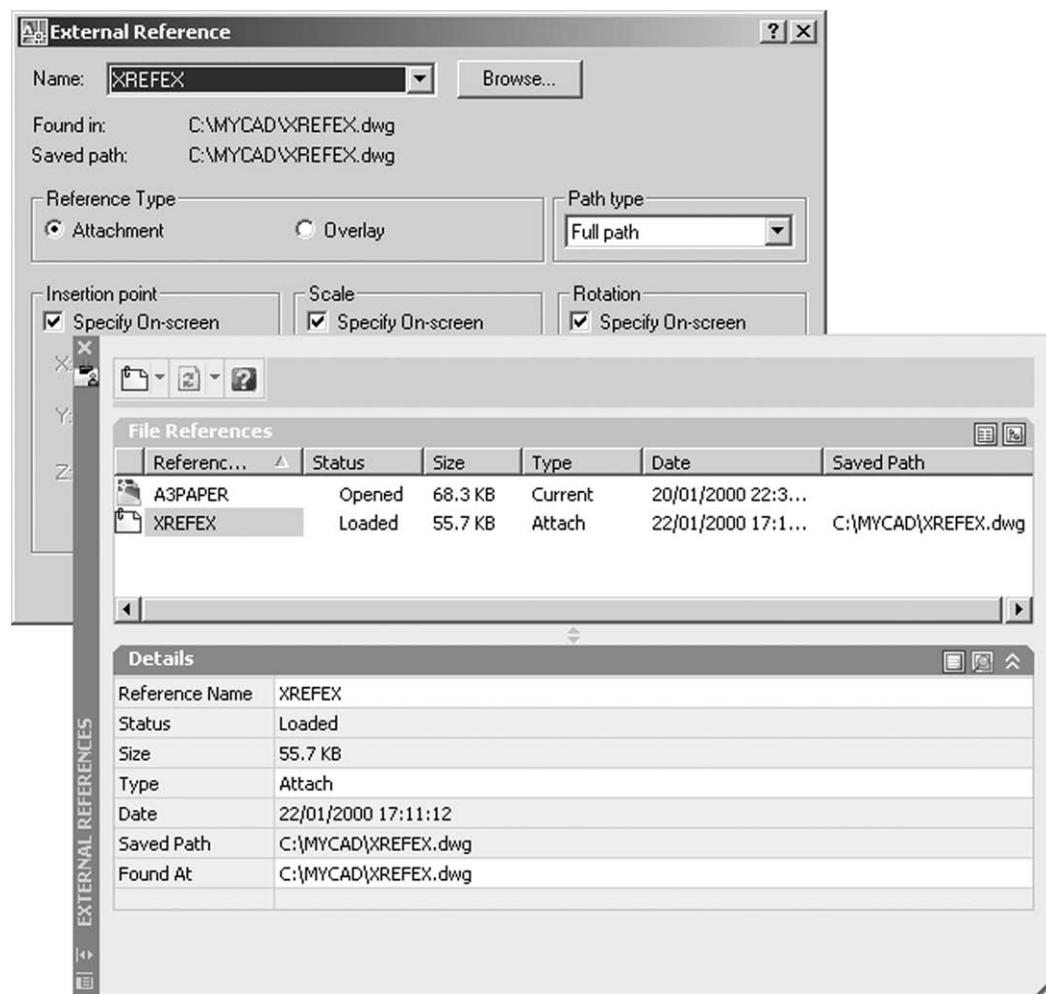

Figure 29.5 (a) The External Reference dialogue box and (b) the External References palette for C:\MYCAD\XREFEX.
- c) all on-screen options active (i.e. tick) – Figure 29.5(a)
- 4 Selecting the XREFEX 'line' will give the user details about the selected item – Figure 29.5(b).